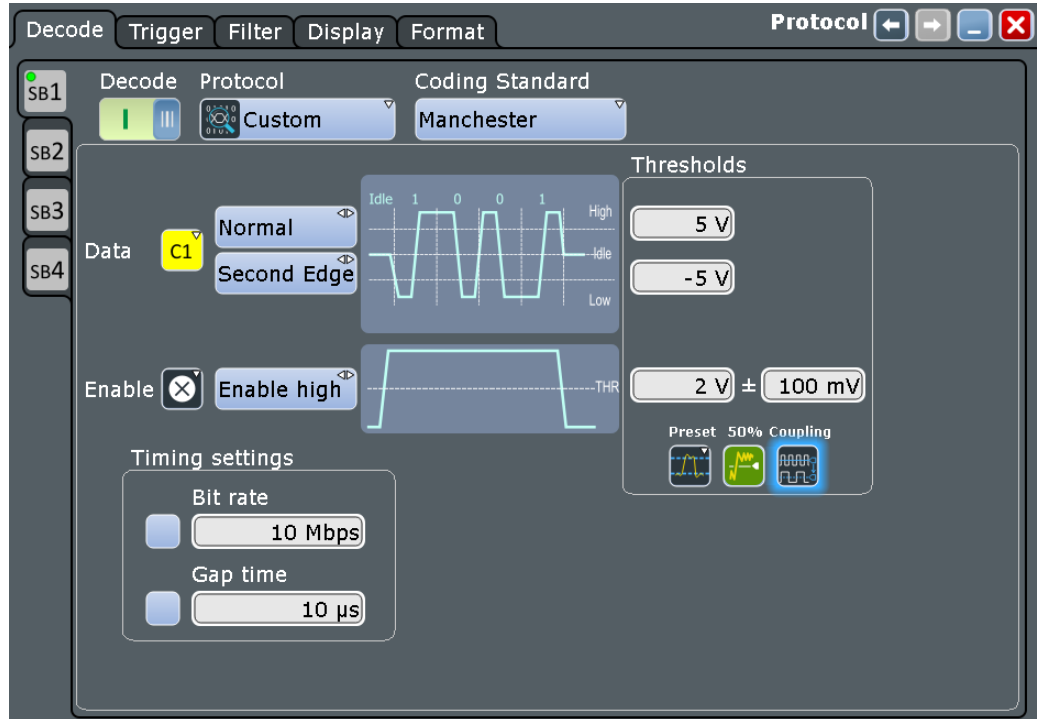

Figure 12-58: Coding standard selection in the serial bus protocol configuration dialog
- "Manchester" Selects the coding standard Manchester. Optional "Timing settings" are "Bit Rate" (default: disabled, 10 Mbit/s) and "Gap time" (default: disabled, 10 µs), as shown in Figure 12-58.
Optional "Timing settings" are "Bit Rate" (default: disabled, 10 Mbit/s) and "Gap time" (default: disabled, 10 μ s), as shown in Figure 12-58.